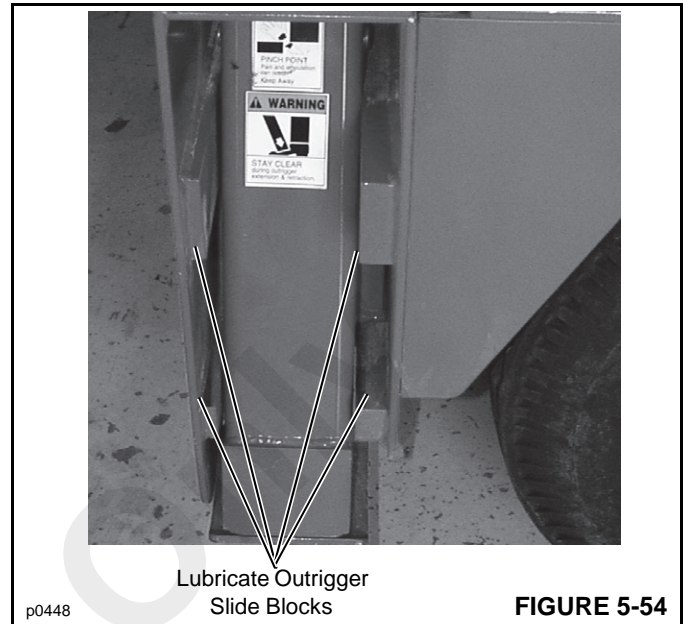

FIGURE 5-54
3. Apply Mobil EP grease, or equivalent, to the areas shown in Figure 5-54. Do not over lubricate. Extend and retract the beams several times to spread the grease.